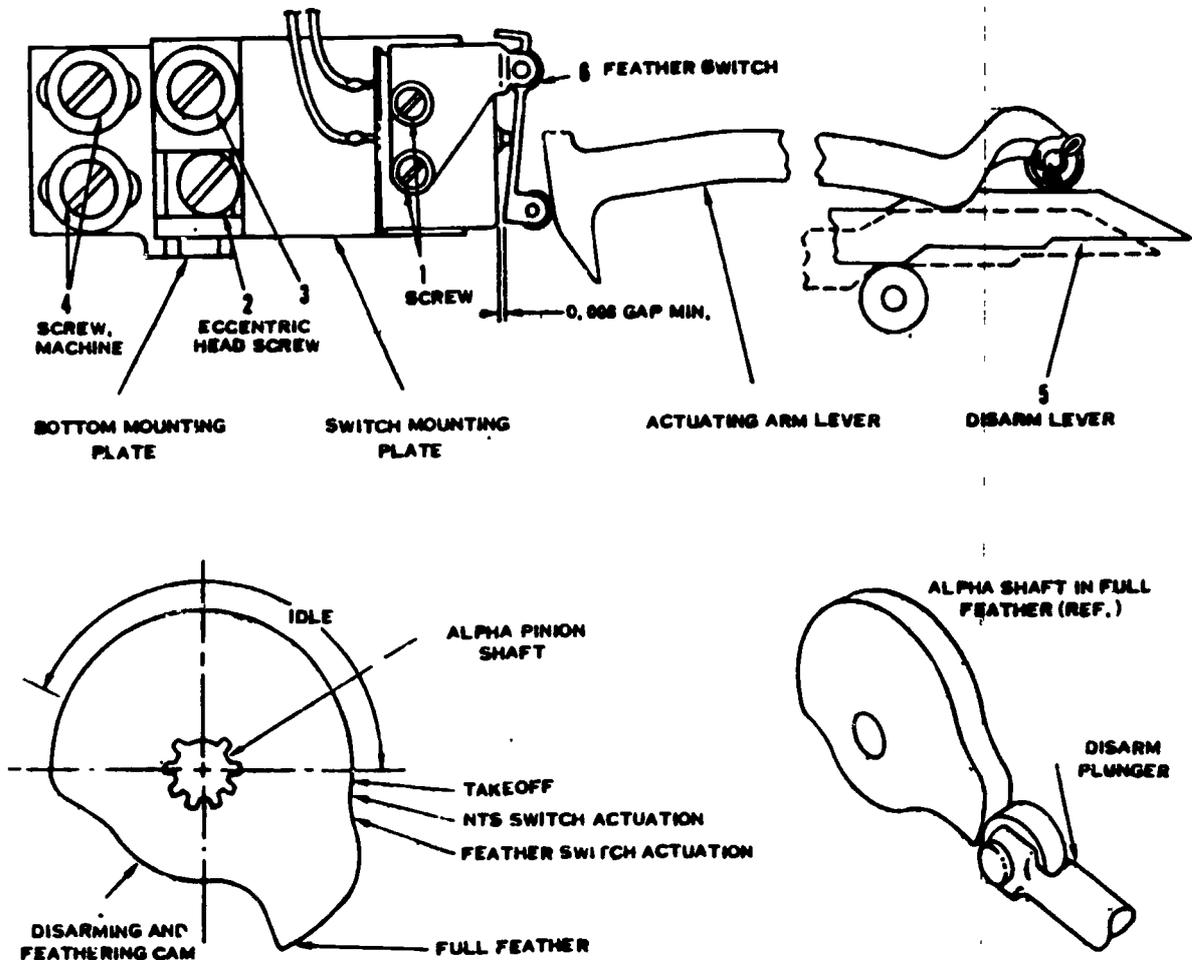

Figure 8. Adjustment of Feather Valve Switch (For Models With Feather Valve Switch Only).
end of the lever and the switch housing. This can be accomplished by loosening the two screws (#1, figure 8) which retain the switch and lever plate to the switch mounting plate and shifting the lever to obtain the maximum gap. Torque and lockwire the screws. Tighten the two screws to 5-7 pound-inches of torque. Loosen the three screws that retain the switch mounting plate and the bottom adjusting plate.
The feather valve switch (figure 8) is adjusted in accordance with TO 3H1-18-2, Section V.
a. Adjust the top of the feather switch mounting plate by adjusting the eccentric screw (2) so that it is in the center of its travel relative to the bottom plate. Tighten the screw (3) that holds the plate together.
b. With the switch assembly installed on the valve housing and the alpha shaft in the full feather position (figure 8) move the assembly (by means of the bottom plate) toward the feather valve lever until the switch is just actuated. Then tighten the bottom plate holddown screws (4).
c. Reposition the alpha shaft to idle (figure 8) and then slowly advance shaft so that it approaches the feather position as shown in figure 8. This position is located just before the roller goes over and rides on the constant radius portion of the cam at feather. Holding this position slightly loosen screw (3) and turn the eccentric screw (2) until the feather switch just actuates. Then retighten screw (3).
d. Move the alpha shaft into the full feather position (figure 8) and move the disarm lever (figure 8) through its full travel. Check to assure that the feather light switch lever to switch housing clearance is 0.008 inch minimum (figure 8). If not, adjust the top of the feather switch mounting plate by loosening screw (3) and turning eccentric screw (2) so that the screw moves inward. Tighten the screw (3) that holds the plates together. Repeat steps b and c. Then, recheck for proper clearance. Repeat step d until all requirements are met.